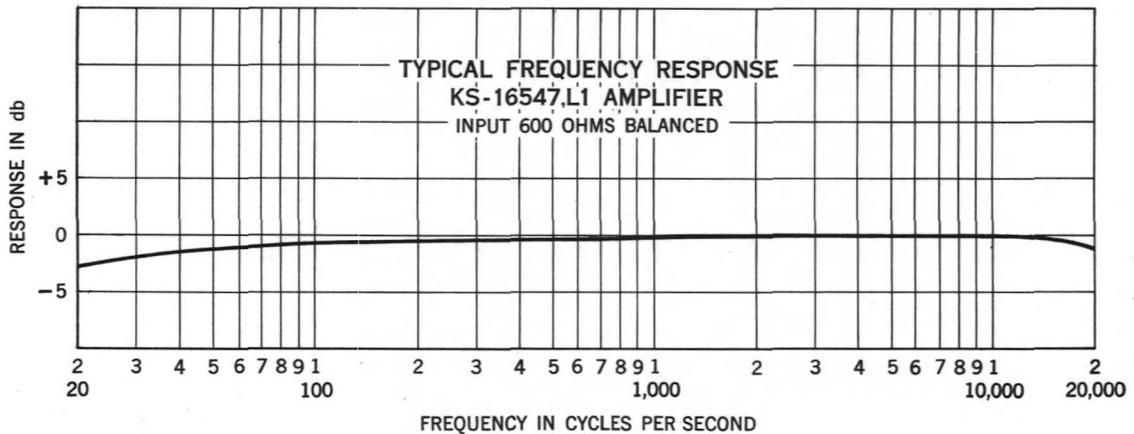

Fig. 3 - Typical Frequency Response
See Fig. 3.
6.02 Figs. 3 and 4 give typical performance curves for the KS-16547, L1 Amplifier.